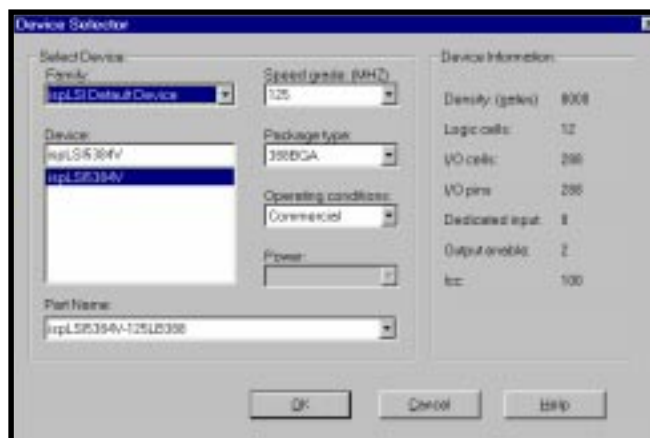

Figure 1-8. Device Selector Dialog Box
1. In the Sources window, double click the default device icon to open the Device Selector dialog box (Figure 1-8).